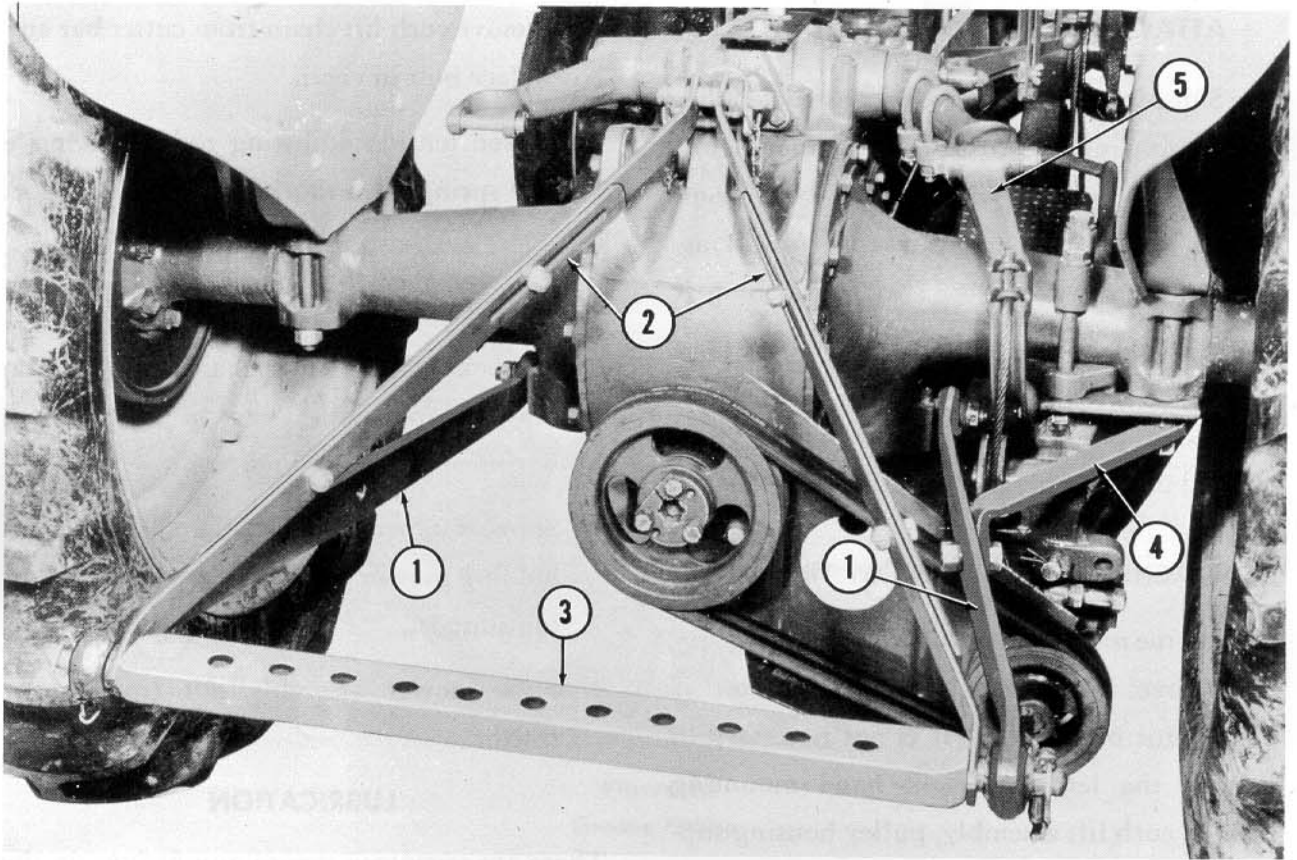

Figure 17
- a. Lower tractor hydraulic lift arm and cable assembly (5), Figure 17, until it rests on tractor rear axle as shown.
33. (Optional) If it is desired to use tractor for pulling, attach lower links (1), Figure 17, and attach draw bar stays (2) in normal manner.
NOTE: Adjust length of stays to hold draw bar (3), Figure 17, clear of mower V-belt guard and attach draw bar stabilizer brace (4), Figure 17, to rear fender bolt and right hand draw bar stay.
CAUTION: If tractor draw bar is to be raised or lowered, remove the draw bar stays (2), stabilizer brace (4), and lift arm extension (5), Figure 17. Then re-install hydraulic lift rods.